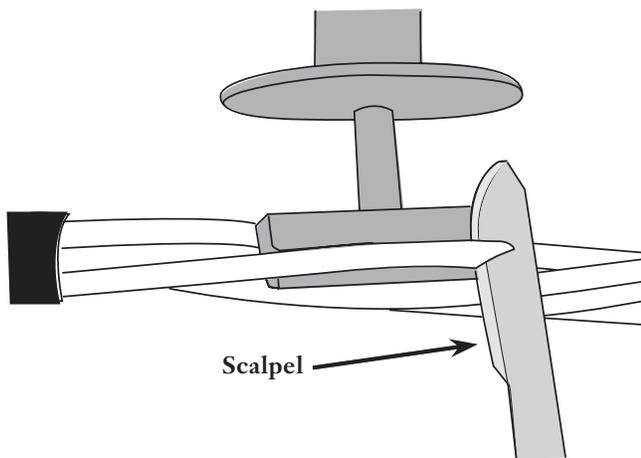

Figure 7
- Step 4** Carefully use the scalpel to slice off the exposed area of buffer tube. Keep the blade flat against the NOFAT and allow the blade to follow the curve of the tool (Figure 7). The opening in the buffer tube should be approximately 2.5 cm (1.0 inch) in length to permit easy access to the interior fibers.